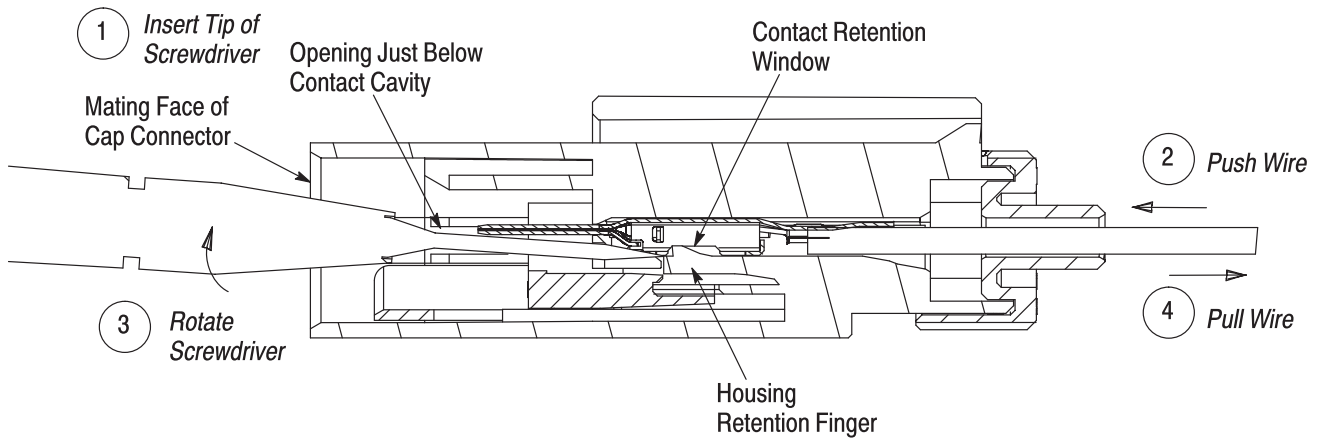

Figure 8
3. At the mating face of the cap connector, insert the tip of the screwdriver into the opening just below the contact cavity of the contact to be removed until it stops. Refer to Figure 8.
5. Rotate the screwdriver toward the contact to lift the housing retention finger away from the contact retention window. Refer to Figure 8. While holding the screwdriver in position, pull the wire until the contact is released, then pull the contact straight out of the contact cavity.